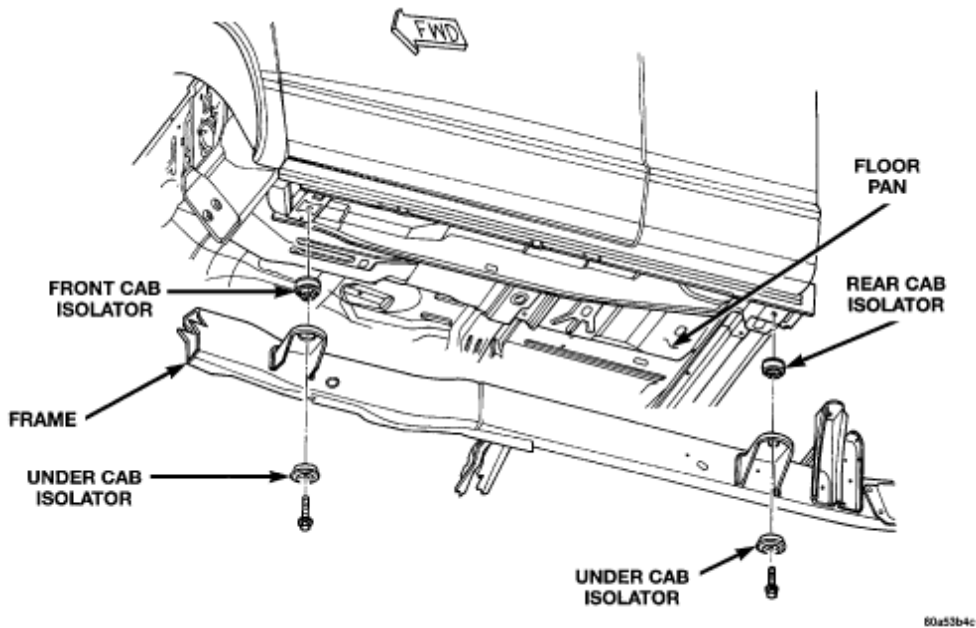

FIGURE 1 - Cab Mounts
- Remove the two rear cab isolator mounting bolts (Figure 1) and the rear under-cab isolators.